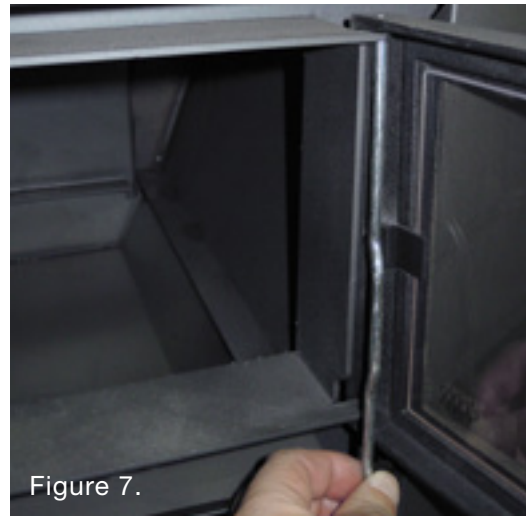

Figure 7.
**Figure 7.** Open the door and raise the hinge pin up so it comes out of the bottom hinge barrel. Hold onto the door securely and turn the bottom part of the pin and turn the bottom end of the pin up enough (2) that you can pull the pin down (3) and the pin and door come apart. For installation proceed in reverse order. First push the upper edge of the door in its place and thereafter push the pin through the upper eyelet. Thereafter turn the door and pin in their places from below and let the pin into the bottom eyelet. The pin is correctly installed when the wider areas of the pin are facing down. In this case the pin cannot move away from its place. Door installation is easier when you use long flatnose pliers.